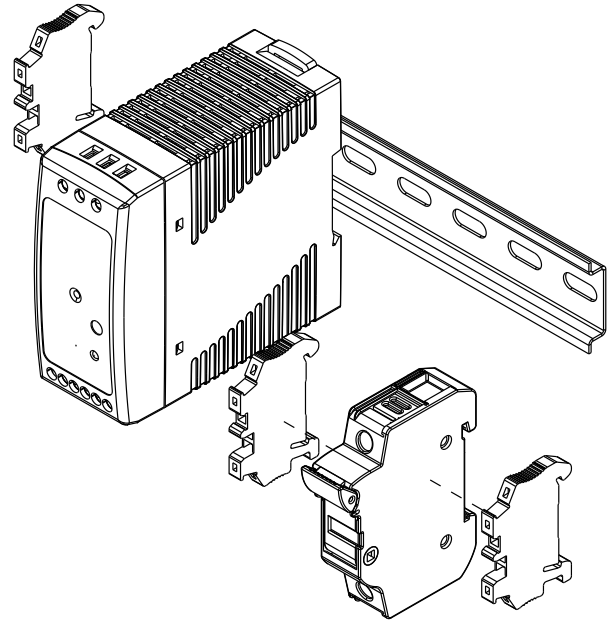

Fig. 11 — Remote Connectivity Assembly (P/N 2007166039)
3. Attach the remote connectivity power supply assembly (P/N 2007166039) to the right-hand side of the panel wall as shown in Fig. 11 using nuts and bolts which are provided with kit.